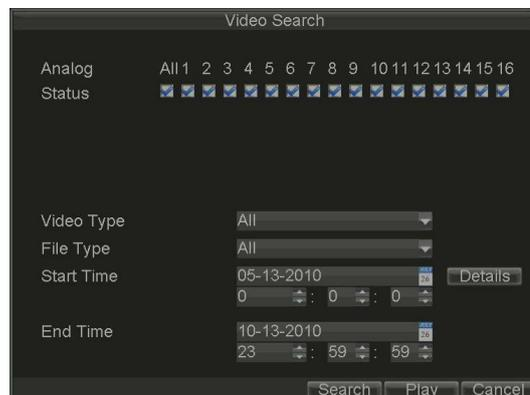

Figure 6. Video Search Menu
1. Click Menu > Video Search to enter the Video Search dialogue box, shown in Figure 6.